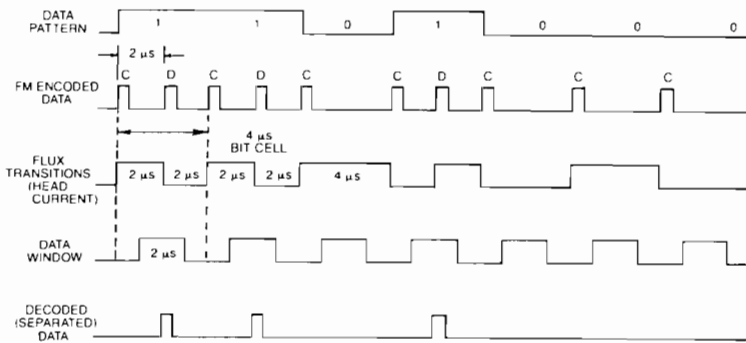

Figure 7-19. FM Encoding Scheme
Once the FDD has been activated and the 8272 has been placed in the Read Data Mode, the head is positioned at the required track on the diskette. The data is then read from the sector(s) and is presented to the Floppy Disk Data Separator (9216) as a composite serial clock/data stream. If the recording format used is single density, the signal will be an FM (Frequency Modulation) encoded signal. If the recording format used is double-density, the signal will be an MFM (Modified Frequency Modulation) encoded signal. Typical FM and MFM encoded signals are shown in Figures 7-19 and 7-20. The FDDS derives a clock signal from the composite signal and regenerates the clock (DW) and the data (SEPD*) signals.